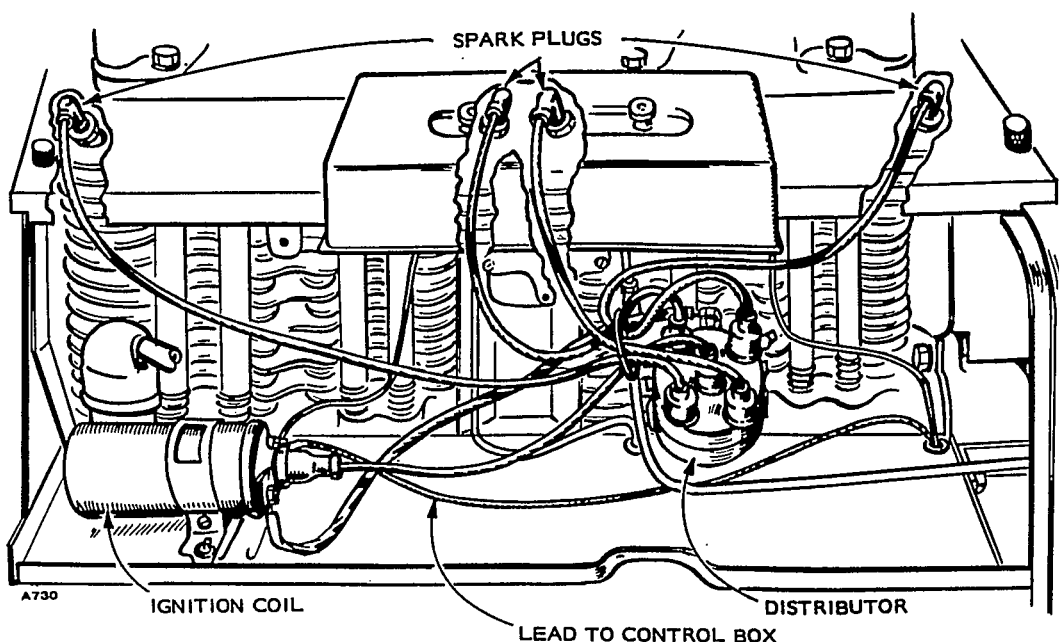

FIGURE 42. JC BATTERY IGNITION SYSTEM WITH AUTOMOTIVE DISTRIBUTOR
The JC engine uses a battery ignition system with an automotive distributor to produce and distribute spark (Figure 42).
4. Install distributor clamp screw. If spark plug leads were removed from distributor cap, reinstall them in proper order, (Figure 42). Time ignition system.